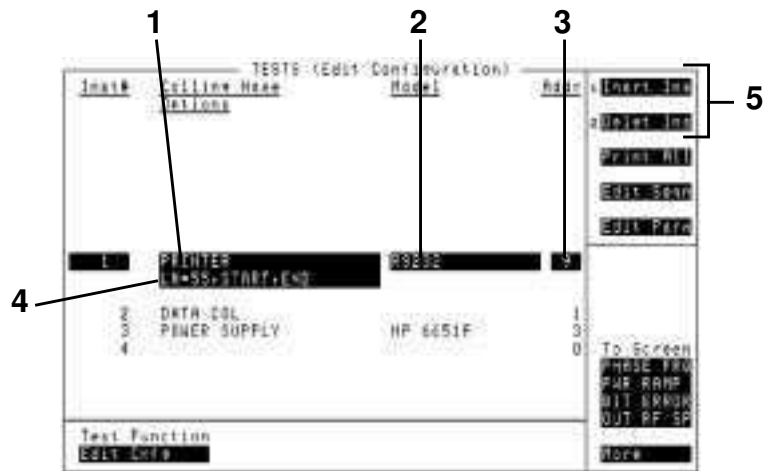

Figure 8-17 Instrument-Configuration Screen
- 1 Select the front-panel **TESTS** key, and then the **Test Function** Edit Cnfg. A configuration screen similar to that shown in Figure 8-17 on page 8-37 appears.
- 2 Select the **Calling Name** field and enter the instrument's name in upper-case letters. For example, **PRINTER**, **POWER SUPPLY**, **DATA COLLECTION**, and so forth. Refer to item (1) in Figure 8-17 on page 8-37.
- 3 Select the **Model** field and enter the instrument's model number. There is no specific syntax for entering model numbers into this field. Refer to item (2) in Figure 8-17 on page 8-37.
- 4 Select the **Addr** (address) field and turn the knob to enter the last two digits of the instrument's GPIB address. Refer to item (3) in Figure 8-17 on page 8-37. (The RS-232 address must be 9, and the Data Collection address must be 1.)
- 5 Select the **Options** field (refer to item (4) in Figure 8-17 on page 8-37) and enter the instrument's option number(s) if any. This field may be left blank, or otherwise may include other calling name options, for example:
- 6 Press the **Insrt Ins** field or **Delet Ins** field as needed or turn the knob to insert or delete as many instruments as needed. Refer to item (5) in Figure 8-17 on page 8-37.